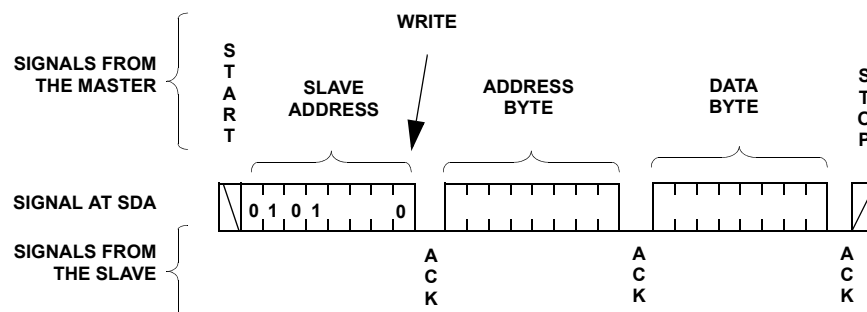
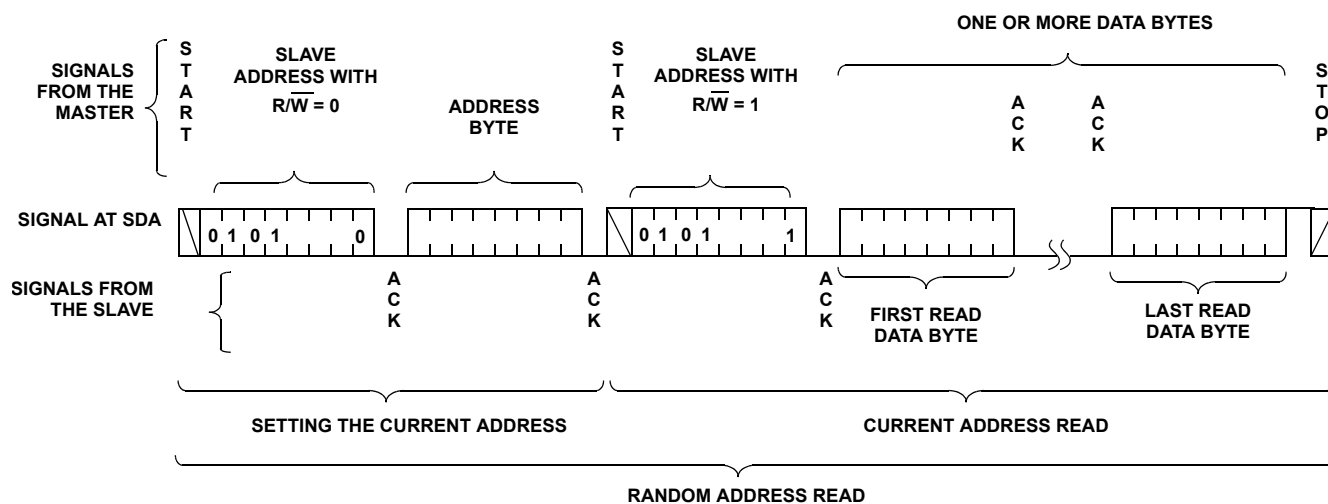

FIGURE 7. BYTE WRITE SEQUENCE
FIGURE 9. MOVE/READ SEQUENCE
14. Access the desired DR or WCR using a new write or read command (see Figure 7 for write and Figure 9 for read.)
For any Byte Write operation, the X9252 requires the Slave Address byte, an Address Byte, and a Data Byte (see Figure 7). After each of them, the X9252 responds with an ACK. The master then terminates the transfer by generating a STOP condition. At this time, if the write operation is to a volatile register (WCR, or SR), the X9252 is ready for the next read or write operation. If the write operation is to a nonvolatile register (DR), and the $\overline{WP}$ pin is high, the X9252 begins the internal write cycle to the nonvolatile memory. During the internal nonvolatile write cycle, the X9252 does not respond to any requests from the master. The SDA output is at high impedance.
The Move/Read operation simultaneously reads the contents of a Data Register (DR) and moves the contents into the corresponding DCP's WCR and the WCRs of all DCPs are updated with the content of their corresponding DR. Move/Read operation consists of a one byte, or three byte instruction followed by one or more Data Bytes (see Figure 9). To read an arbitrary byte, the master initiates the operation issuing the following sequence: a START, the Slave Address byte with the $\overline{R/W}$ bit set to "0", an Address Byte, a second START, and a second Slave Address byte with the $\overline{R/W}$ bit set to "1". After each of the three bytes, the X9252 responds with an ACK. Then the X9252 transmits Data Bytes